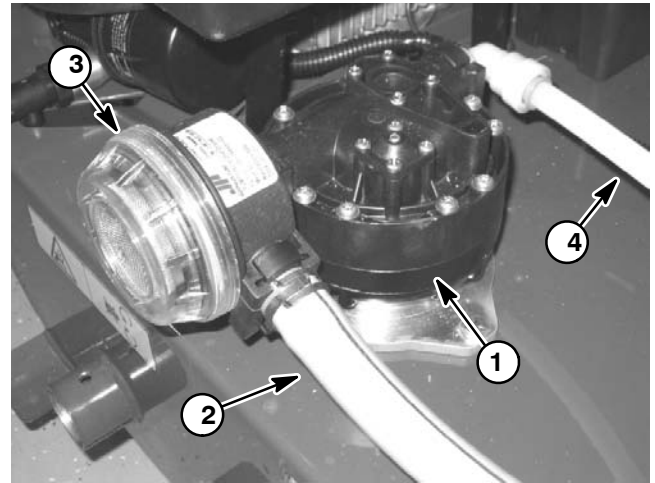

Figure 31
4. Loosen two (2) set screws and then remove cap screw (item 7), lock washer (item 8) and flat washer (item 6) that secure pulley to pump shaft. Slide pulley from pump shaft. Locate and retrieve square key (item 10).
6. Disconnect suction and pressure hoses from spray pump fittings (Fig. 31).
7. Remove three (3) flange nuts (item 4) and cap screws (item 12) that secure spray pump to chassis.